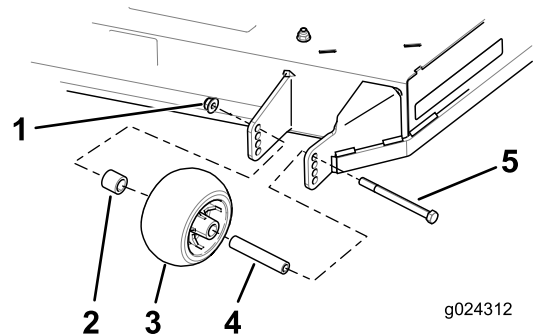

Figure 27
3. Remove the flange nut, anti-scalp roller, and bolt from the bracket (Figure 27).
4. Align the bolt and anti-scalp roller in the hole of the bracket that matched the closest height-of-cut position (Figure 27).
5. Insert the bolt into the bracket hole and secure the bolt and anti-scalp roller with the flange nut (Figure 27).